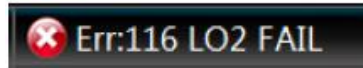

Fig. 7.4 Error message displayed in the status indicator field
2) If any error is detected during measurement of the analyzer, the warning or error message will be displayed at the right corner of the status indicator field (error code + error abbreviation) as shown in Fig. 7.4: